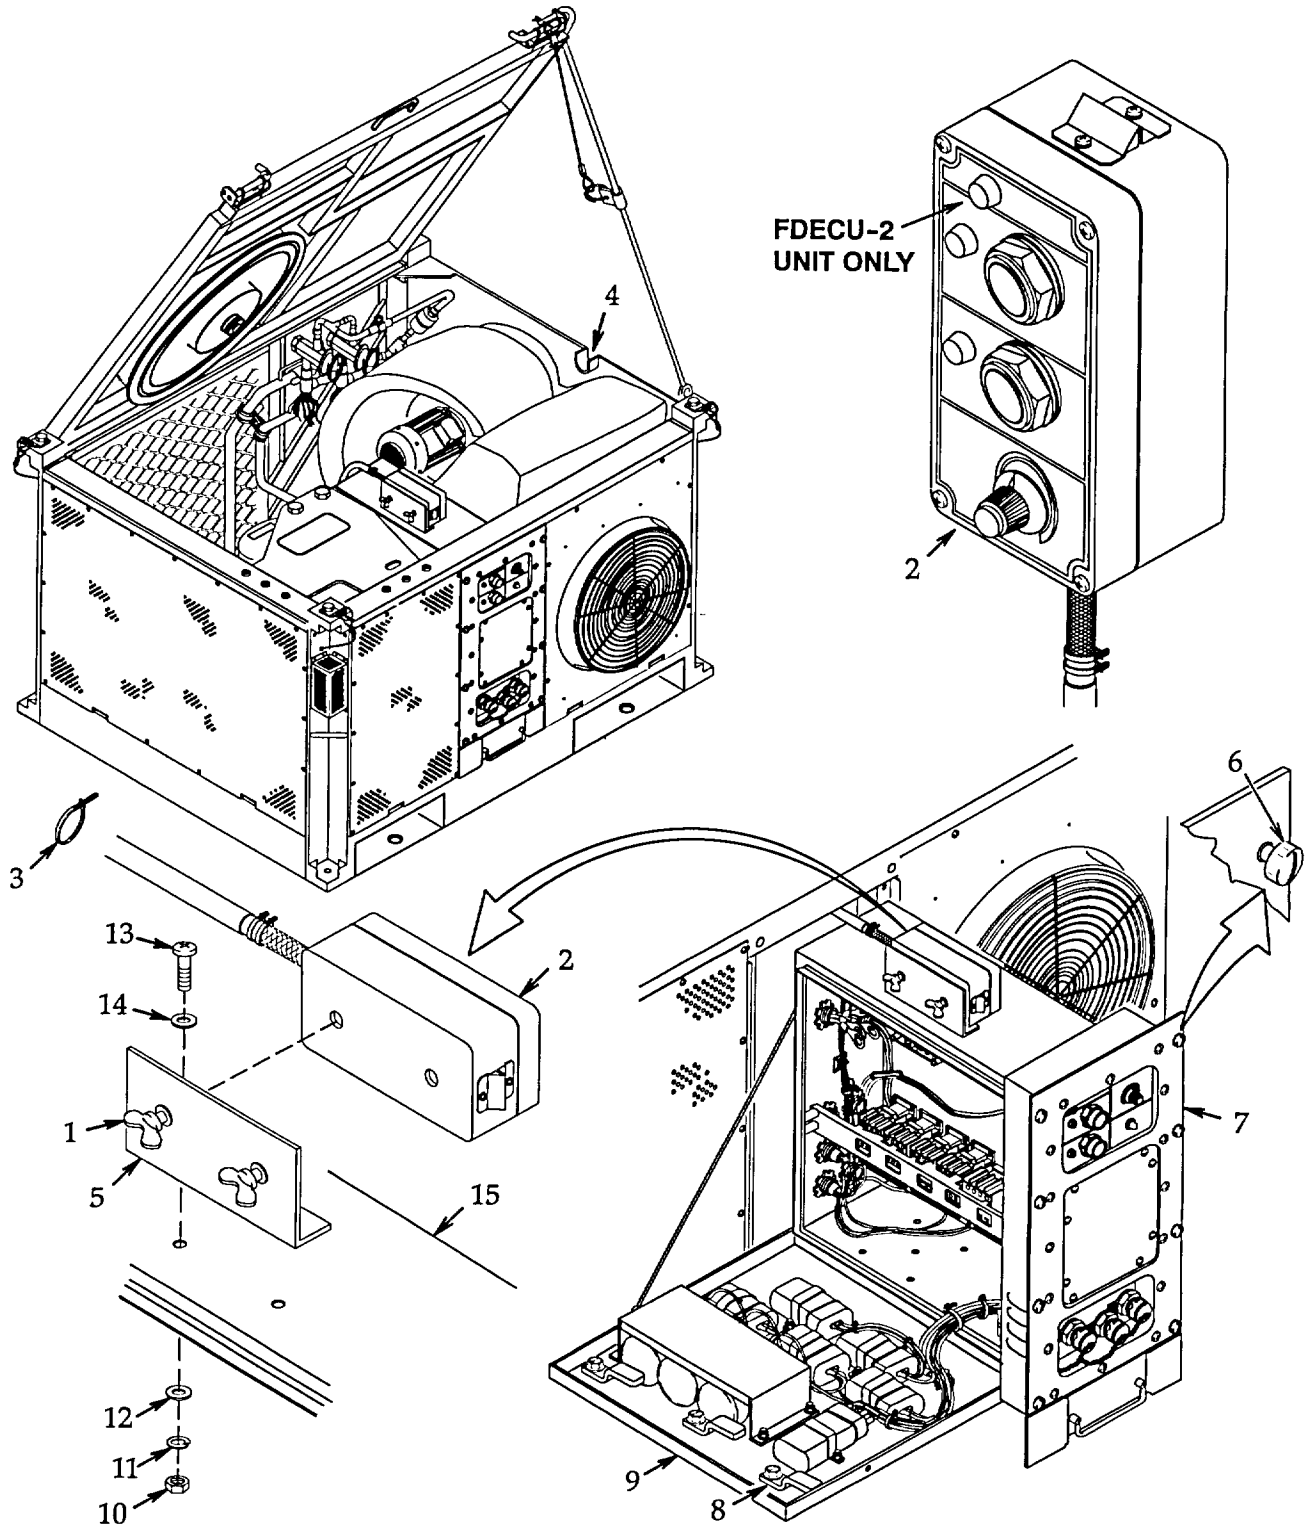

Figure 4-5. Remote Control Box.
4.4.5 **Remote Control Box Installation.** See figure 4-5.